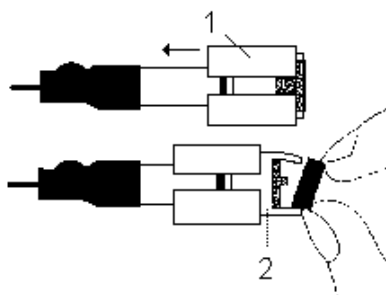

Fig. 7. Electrode assembly. The working electrode is fitted on the electrode shaft with electrode retaining ring (1) and held in place by a silicon holder (2).
4. Take out the WE contact (Fig. 7).
**Always assemble the two halves of the cell body first, prior to fitting the working electrode assembly. To prevent the spacer from moving keep the ReactorCell with the inlet block down as illustrated in Fig. 7.**